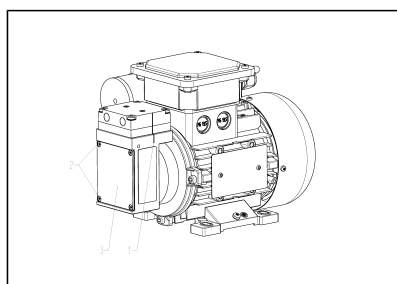

Fig.6 Marking with felt-tip pen
1. Mark the head plate, intermediate plate and housing with a felt-tip pen (Fig. 6/1) to ensure proper mounting.
2. Remove the housing cover (Fig. 6/3).